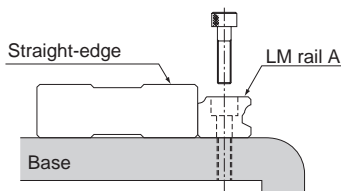

Fig.22
- (2) Place LM rail A onto the base and align the rail with a straight-edge. Fully fasten the mounting bolts using a torque wrench. (Fig.22)